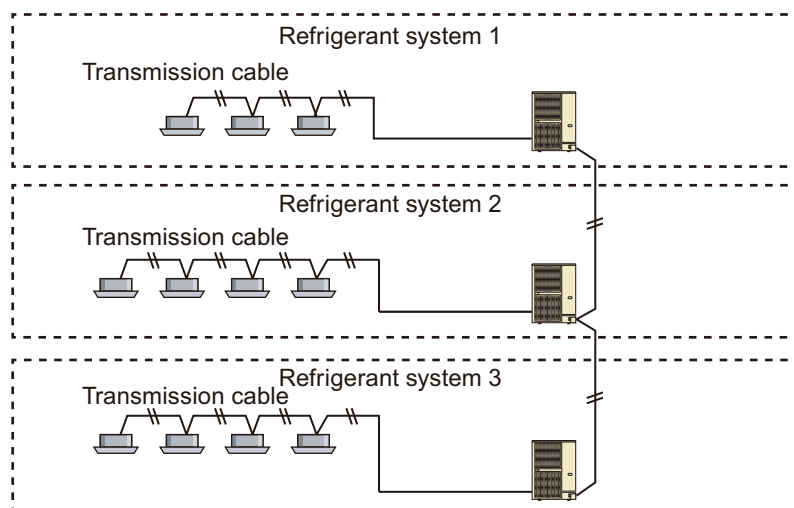
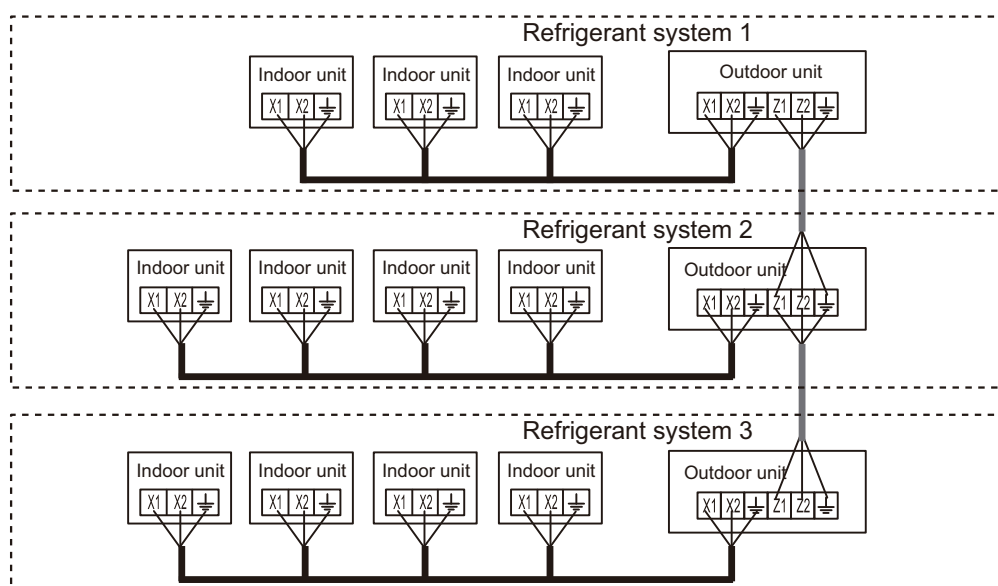

Fig. 1
Fig. 2
$AB + BC + BD + DE + EF > 500 \text{ m}$  (Fig. 1)
- Total transmission cable length: 3,600 m (Fig. 2)
Connect the transmission cable like as Fig. 1 and Fig. 2